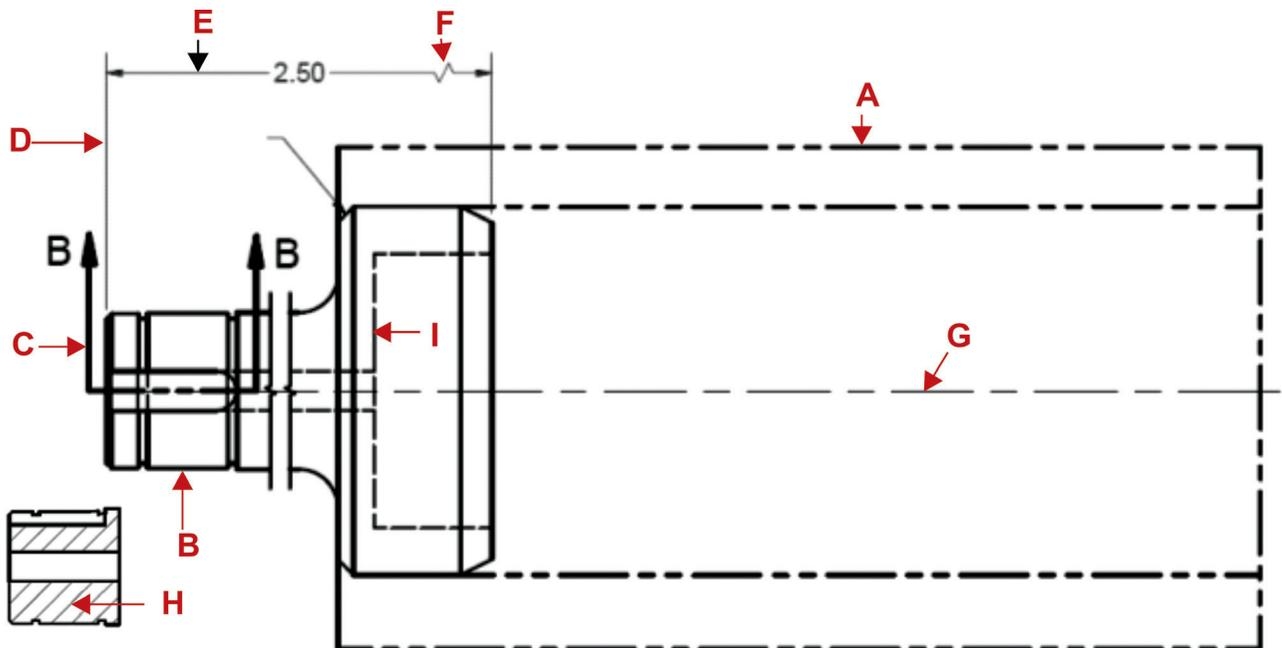

Figure A-50 Part drawing for the self check.
1. Identify the types of lines in the drawing in Figure A-50 (Hint: object, invisible, phantom, extension, dimension, broken, hidden, center, cutting plane line, part, heavy, break, section, parting)